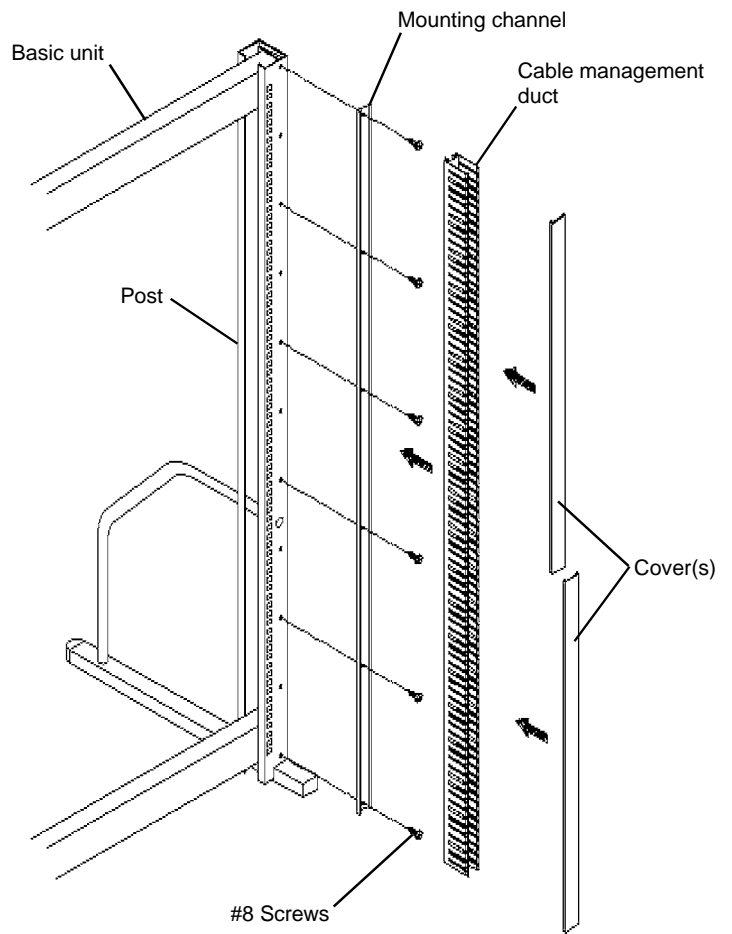

Figure 1
1. The rear of the **Post** has a row of small holes. Align the holes (every other hole) in the **Mounting Channel** with the Post holes and attach with the #8 screws. **Starting at the top**, snap the **Cable Management Duct** into the channel. **NOTE:** It is meant to be a tight fit, so use of a mallet and block to tap the duct in place may be necessary. Once started, continue taping it in, moving down a few inches at a time. See **Figure 1**.